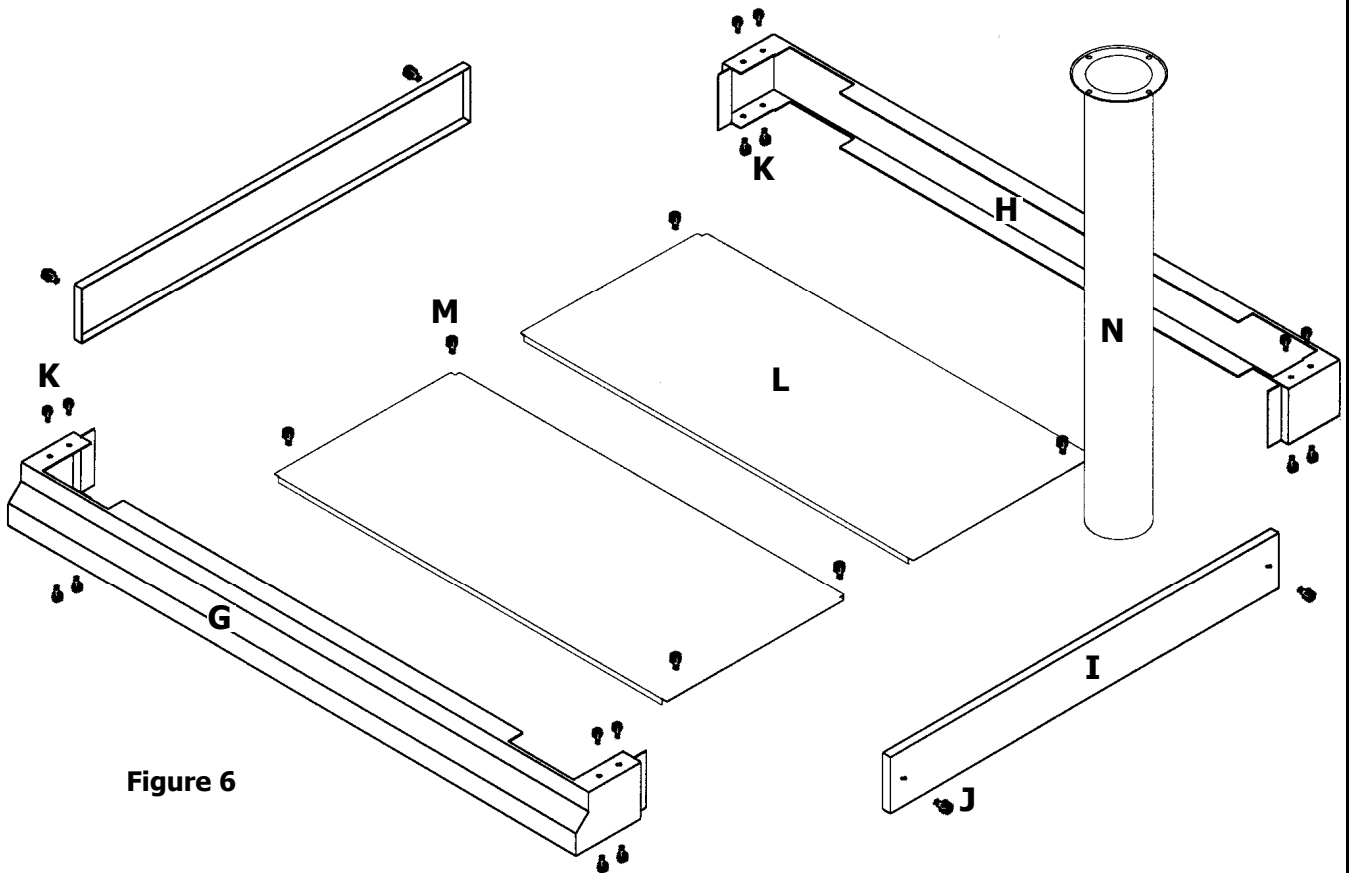

Figure 6
- i. Assemble loosely the front (G), back (H) and sides (I), with one screw (J) at each corner (Figure 6), in from the sides.
- j. Place stacking assembly on top of the lower oven and loosely attach, using 2 screws (K) in each corner of the unit (at front and back up from the sides).